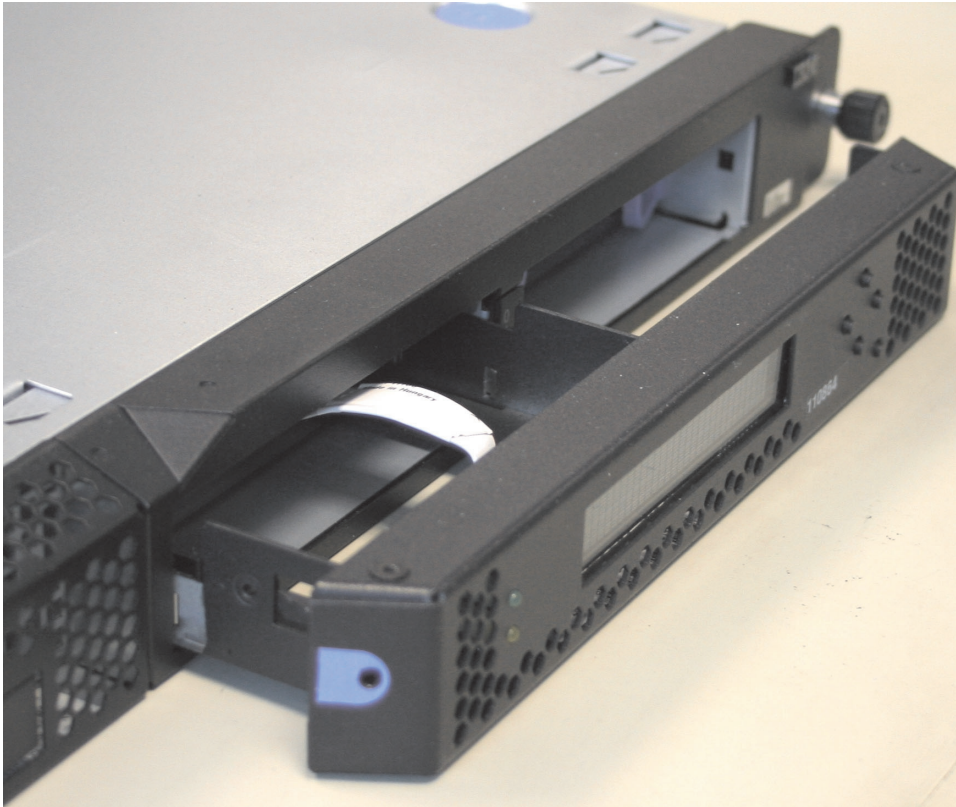

Figure 89. SAN Volume Controller 2145-8A4 service controller
1. Gently push the service controller (shown in Figure 89) into the frame until the rear connectors are fully seated and the service controller front metal work is up to the frame.